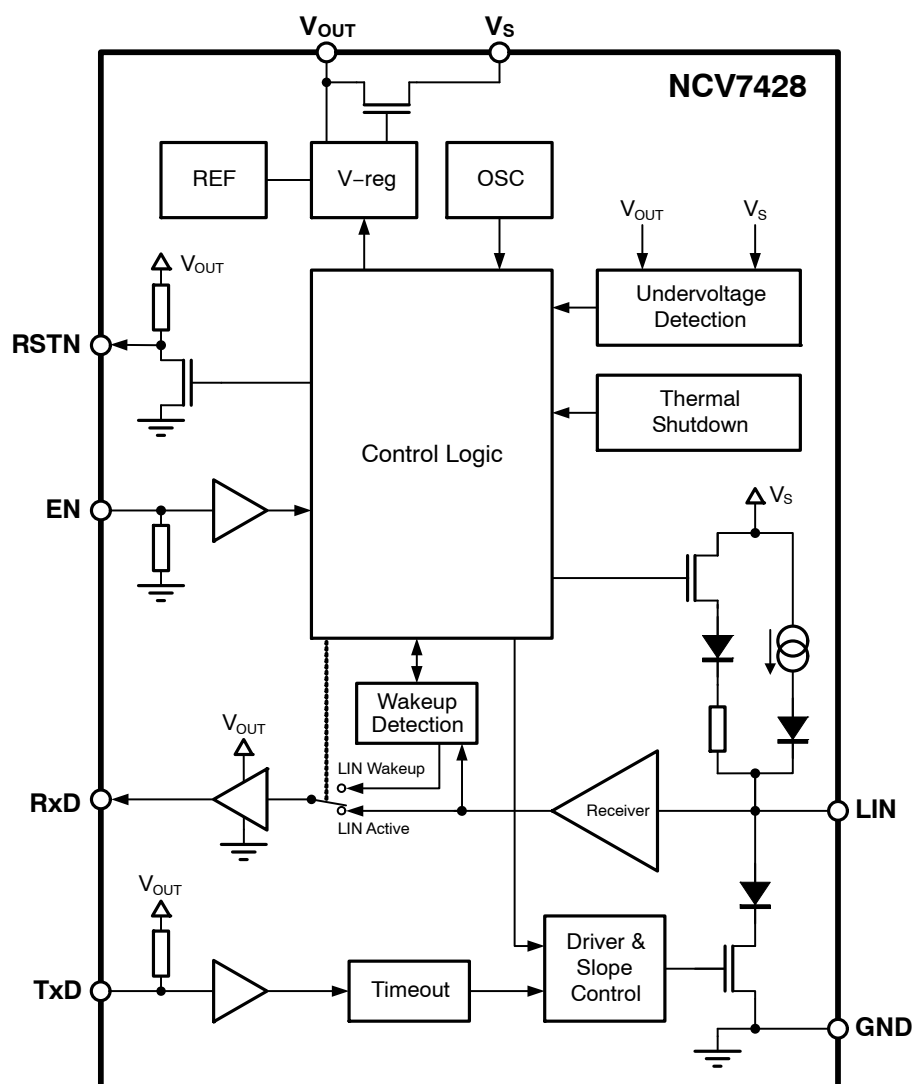

Figure 1. Block Diagram
10. The voltage drop in Normal mode between LIN and V_S pin is the sum of the diode drop and the drop at serial pull-up resistor. The drop at the switch is negligible. See Figure 1.